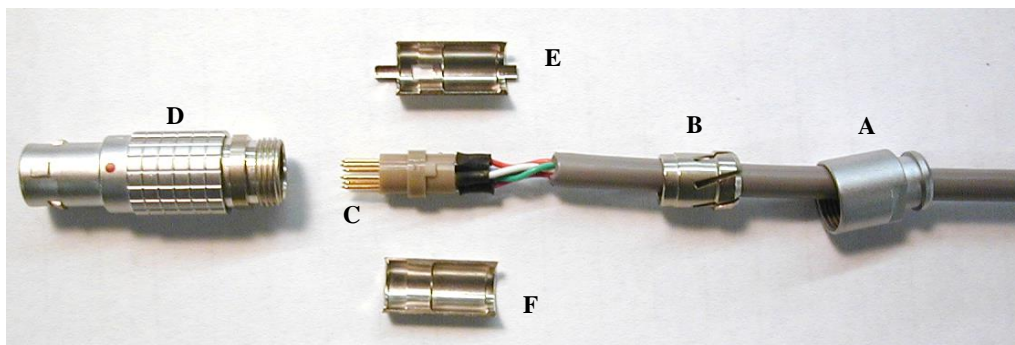

Figure 18
2. Place pieces A & B of the LEMO Connector (10508-0006-01) over the cable as shown in Figure 18.